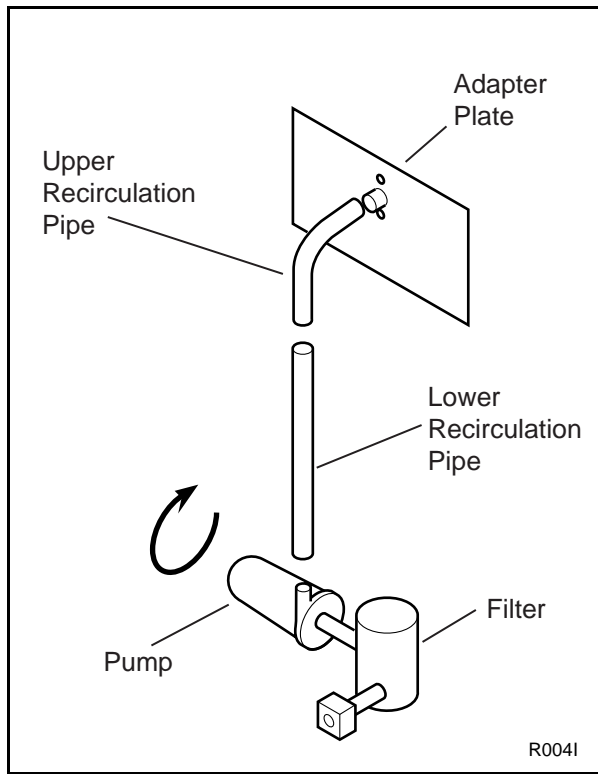

Figure 26
**Note:** If pump motor rotation is incorrect during the control function test, swap any two wires at terminals T1, T2, or T3 of pump contactor. See Figure 26 for correct motor rotation direction.
- c. Attach upper recirculation pipe to the hose connector at the recirculation adapter plate on the rear of the washer-extractor. See Figure 26.